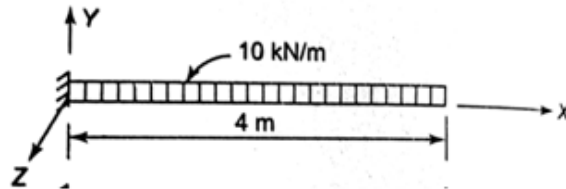

Figure 5
- (b) Using the stiffness method, calculate the end deflection and rotation of a cantilever beam loaded uniformly as shown in Figure 5. EI is constant. [8 M]